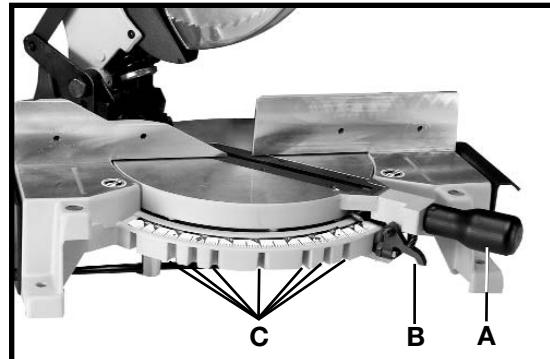

Fig. 12
Your miter saw will cut any angle from a straight 90 degree cut to 47 degrees right and left. Loosen lock handle (A) Fig. 12 one or two turns, depress index lever (B), and move the control arm to the desired angle. **TIGHTEN LOCK HANDLE (A).**
The miter saw is equipped with positive stops at the 0, 15.5, 22.5, 30, and 45 degree right and left positions. Loosen lock handle (A) Fig. 12, depress index lever (B), and move the control arm until the bottom of the index lever engages into one of the positive stops (C). **TIGHTEN LOCK HANDLE (A).**
IMPORTANT: ALWAYS TIGHTEN LOCK HANDLE (A) FIG. 12 BEFORE CUTTING.